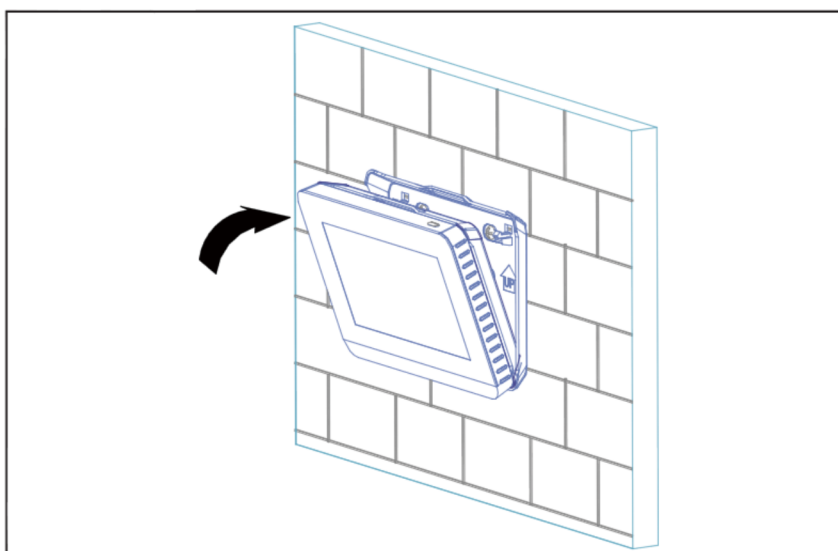

Figure 6
**3.1.5 Press the upper part of the centralized controller into the back cover, so it gives a click sound, as shown in Figure 6.**